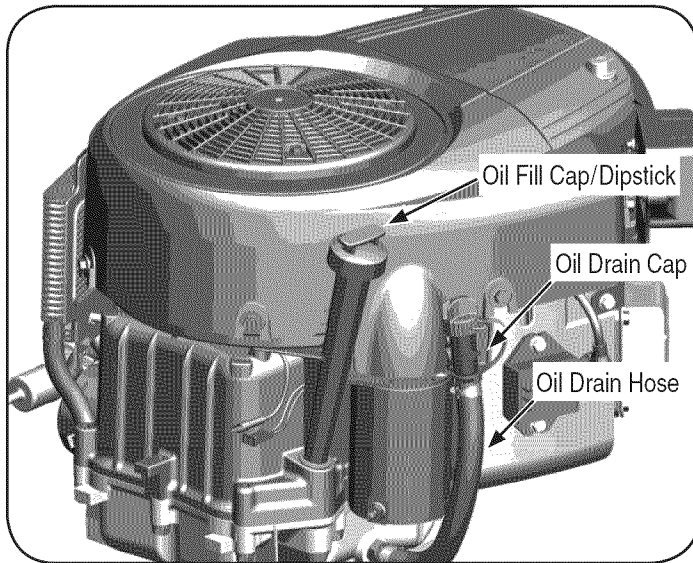

Figure 28
2. Remove the oil fill cap/dipstick from the oil fill tube. See Figure 28.